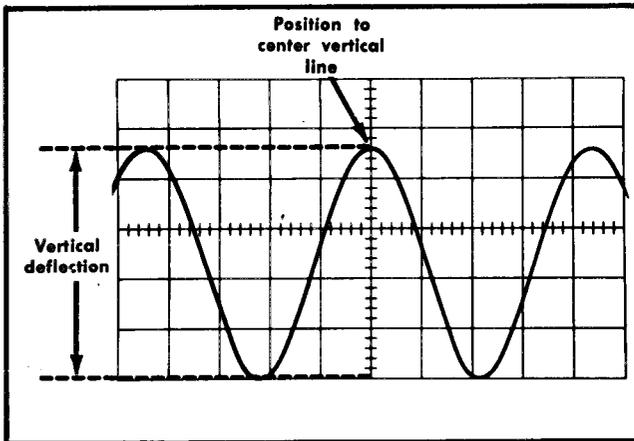

Fig. 2-15. Measuring peak-to-peak voltage of a waveform.
6. Turn the vertical POSITION control so the lower portion of the waveform coincides with one of the graticule lines below the center horizontal line, and the top of the waveform is in the viewing area. Move the display with the horizontal POSITION control so one of the upper peaks lies near the center vertical line (see Fig. 2-15).
**Example.** Assume a peak-to-peak vertical deflection of 4.6 divisions (see Fig. 2-15) using a 10X attenuator probe and a VOLTS/DIV switch setting of .5.